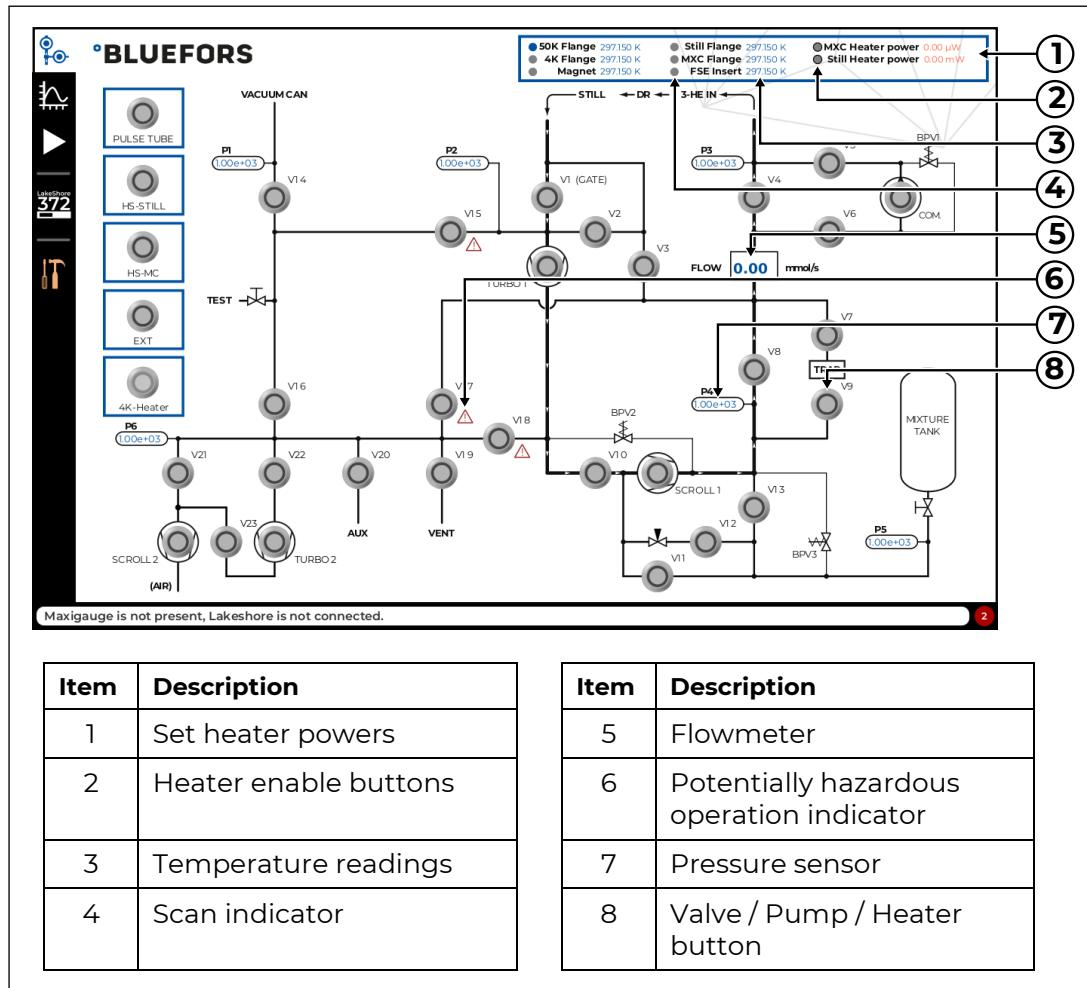
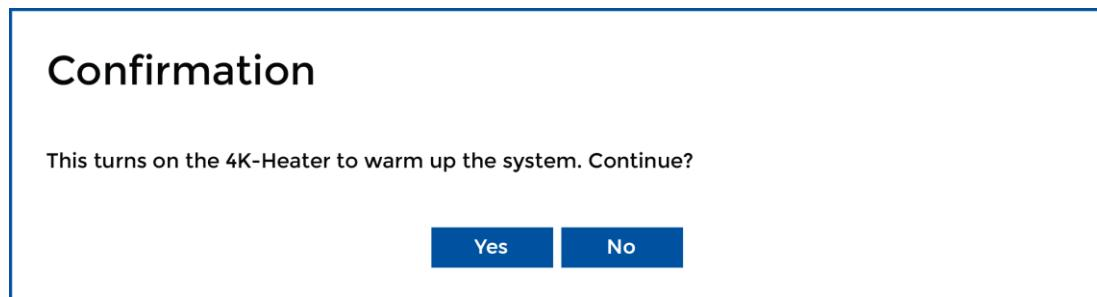

Figure 29: The front panel view
Figure 30: Verification dialog shown when turning on the 4K Heater
Some buttons have a red exclamation mark inside a triangle (item 6 in Figure 29). This indicates that the operation requires additional confirmation before the operation is executed. This precaution has been added to operations that could have critical immediate consequences. The operations that need confirmation are opening valves V15, V17, and V18 or turning on the 4K Heater. An example of a confirmation dialog is shown in Figure 30.